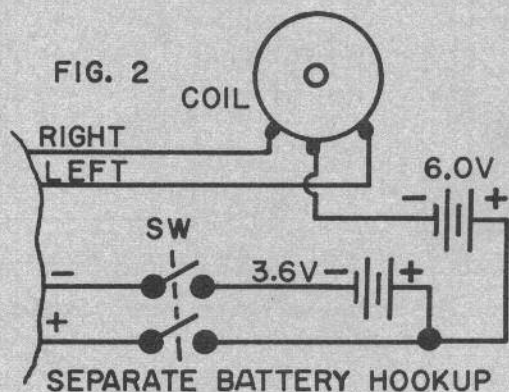

FIG. 3
Fig. 3 is the circuit for overexcitation of the actuator, and
4. This is an isometric view of section "A-A" from figure 3. Operation is as follows: Rod "A" (rudder torque rod) is moved through a 90-degree arc—45 degrees each side of neutral; the Adams actuator imposes this limit. "B" travels through the same arc and, in doing so, cams the yoke up and down; part "C" transmits this up and down action to part "D" which moves fore and aft.
Part "C" should be one piece for rigidity and well soldered to the brass horn. Limit stops should be placed on the rudder or rear crank. (User's instructions for Adams Actuator.) Limit stops work all right as shown, and are made from two long, thin brass bolts screwed up through the bottom of frame as shown in figure 3. (Cover the stops with heat shrink tubing.)